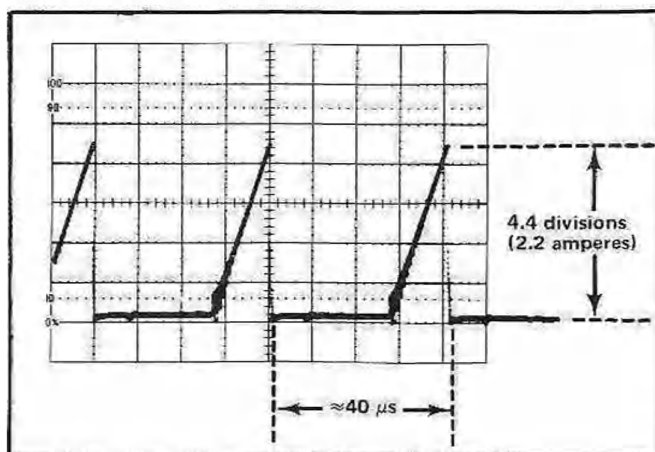

Fig. 5-2. Current waveform in collector circuit of Q1080.
f. CHECK—Test oscilloscope display of 4.4 divisions peak to peak (peak current measurement of 2.2 amperes). See Fig. 5-2. Repetition rate should be approximately 25 kilohertz (40 μ s period).